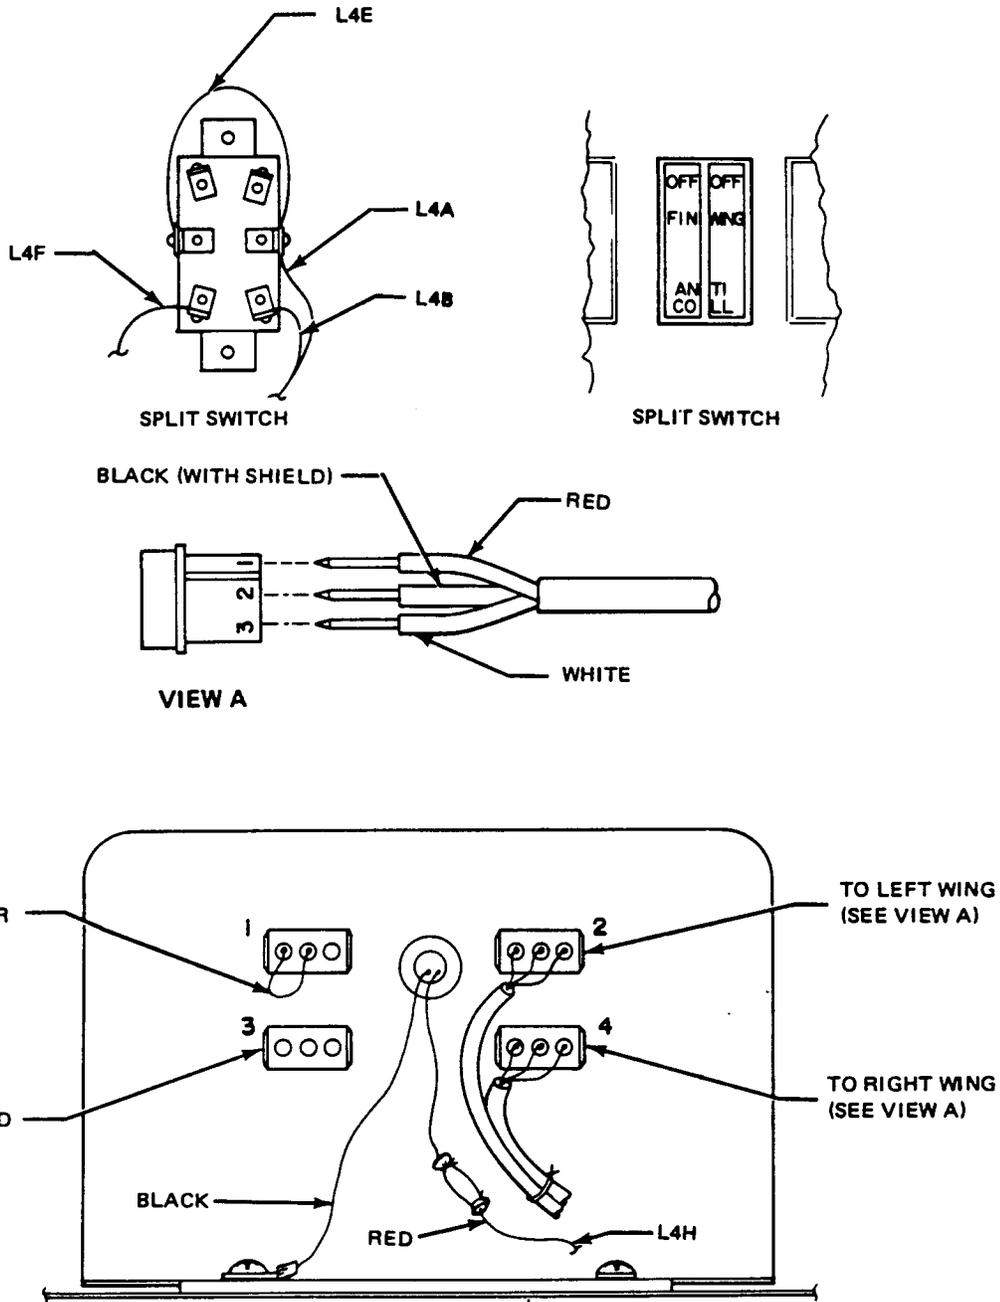

Figure 33-1. Strobe Light Connections
2. Insert wire terminals in plastic plug supplied with new lamp. Wire according to schematic diagram. (Refer to figure 33-1.) Connect plug to receptacle.
**INSTALLATION OF STROBE POWER SUPPLY (figure 33-1)**